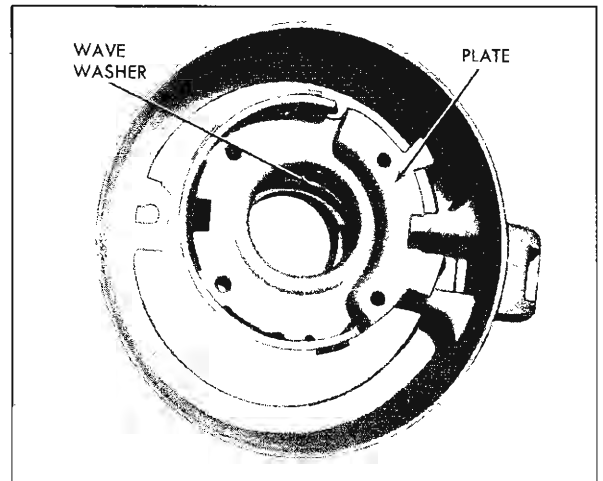

Fig. 27—Lock Plate, Wave Washer and Shift Lever Support Housing
21. Remove the lock plate, wave washer and selector lever support housing from the upper end of the mast jacket (fig. 27).